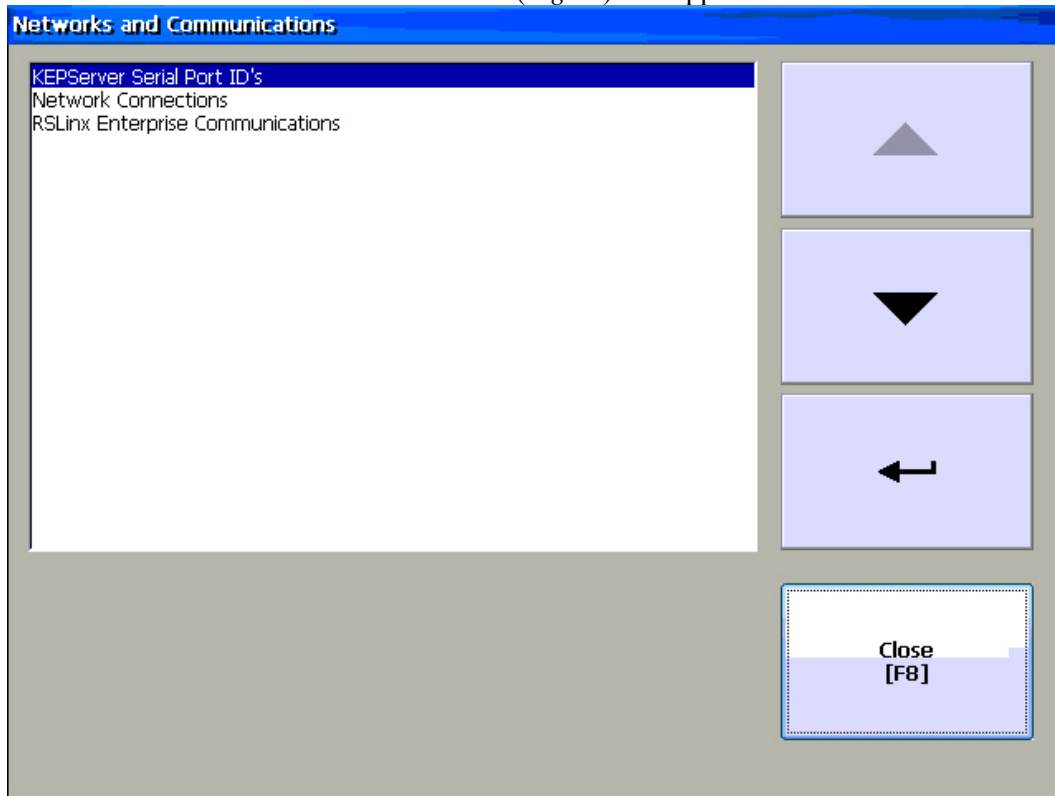

Fig 26
30. The Networks and Communications Menu (*Fig 26*) will appear.
51. The Network and Communications Menu will appear (*Fig 26*).